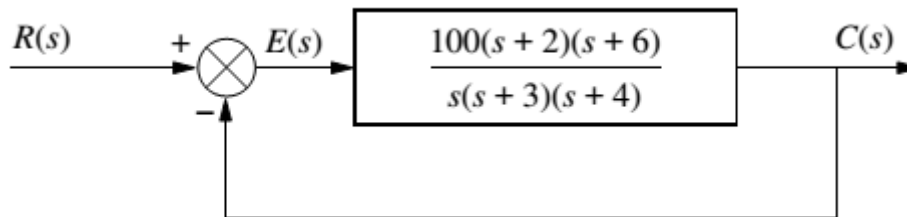

Figure Q2: Feedback control system.
- (b) Find the steady-state errors for inputs of $5u(t)$, $5tu(t)$, and $5t^2u(t)$ to the system shown in Figure Q2. The function $u(t)$ is the unit step. [9]